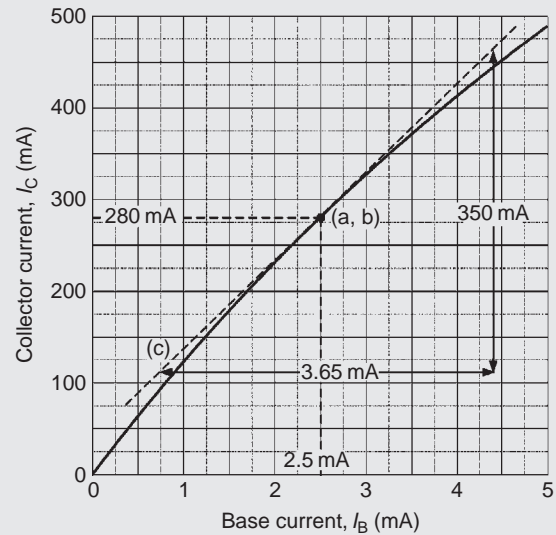

Figure 14.16
Problem 5. Fig. 14.16 shows the transfer characteristic for an n-p-n silicon transistor. When the base current is 2.5 mA , determine (a) the value of collector current, (b) the static value of current gain and (c) the dynamic value of current gain
(a) From Fig. 14.16, when $I_B = 2.5\text{ mA}$, **collector current, $I_C = 280\text{ mA}$** (see point (a, b) on the graph)
- (c) In Fig. 14.16, the tangent through the point (a, b) is shown by the broken straight line (c). Hence, **the dynamic value of current gain**